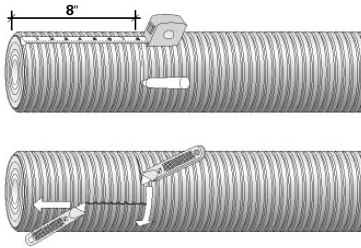

Figure 4-14: Measure and Cut Outer Jacket
2. Measure 8" from end of the pipe, and using a sharp razor knife, slice through the jacket around the circumference and remove. It may be necessary to continue by cutting the jacket from the circumference to the rough end of the pipe as shown in **Figure 4-14**.